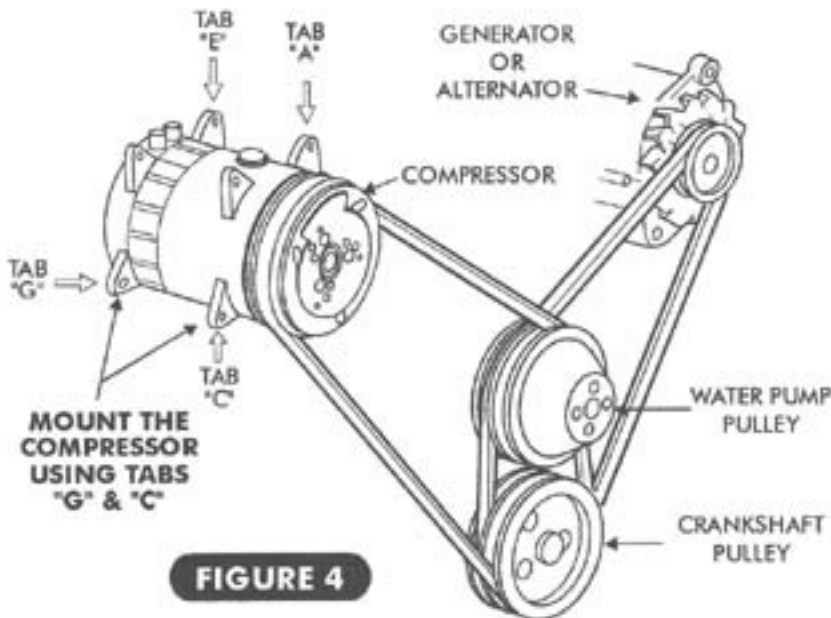

FIGURE 4
- ☐ REFER TO SEPARATE INSTRUCTIONS INCLUDED WITH THE BRACKET KIT TO INSTALL THE COMPRESSOR BRACKET. REFER TO FIGURE 4 BELOW FOR COMPRESSOR MOUNTING POSITION.
- ☐ IN MOST INSTANCES EXISTING BELT LENGTHS WILL REMAIN THE SAME. SEE FIGURE 4 BELOW.